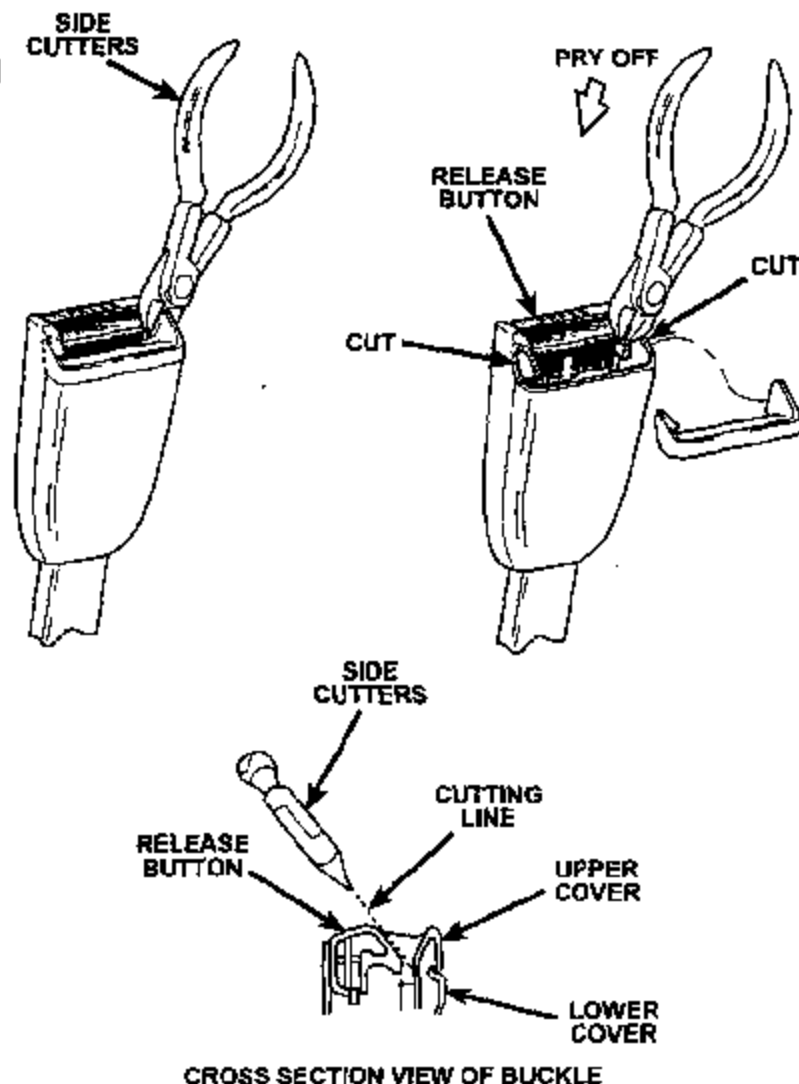

Figure 2
4. Cut both sides of the upper buckle cover along the angled surface using side cutters as shown in Figure 2.